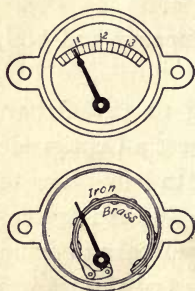

FIG. 10 — STOVE
18. Uses of Thermometers. Thermometers have many uses in the household other than the common one of indicating the temperature of the air in a room or out of doors. Most up-to-date cooking stoves have metallic thermometers on the oven door to indicate the condition for baking and roasting different articles of food (Fig. 10). A thermometer should be used in the making of candies, if one expects to have the same results each time. The determination of the temperature of a bath should not be left to the feeling of the hand, or even of the elbow. Particularly does this apply to